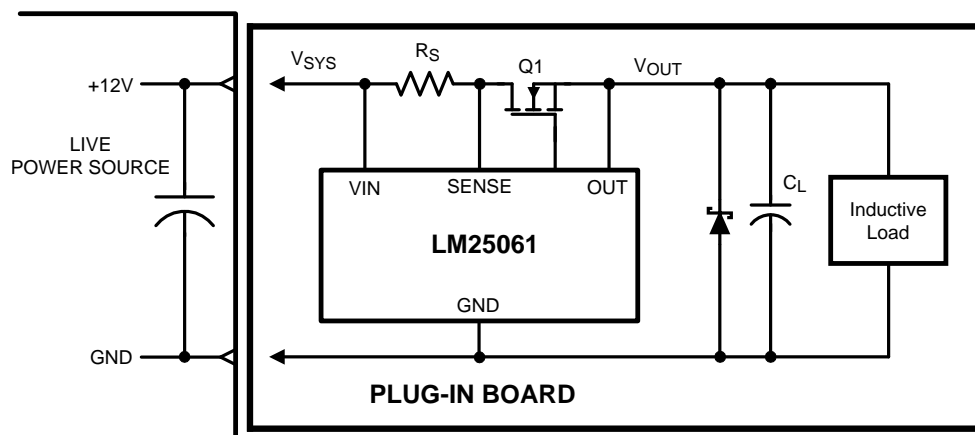

Figure 37. Output Diode Required for Inductive Loads
2. If the load powered by the LM25061 hot swap circuit has inductive characteristics, a Schottky diode is required across the LM25061's output, along with some load capacitance. The capacitance and the diode are necessary to limit the negative excursion at the OUT pin when the load current is shut off. If the OUT pin transitions more than 0.3V negative the LM25061 will internally reset, interfering with the latch-off feature of the LM25061-1, or the restart cycle of the LM25061-2. See Figure 37.